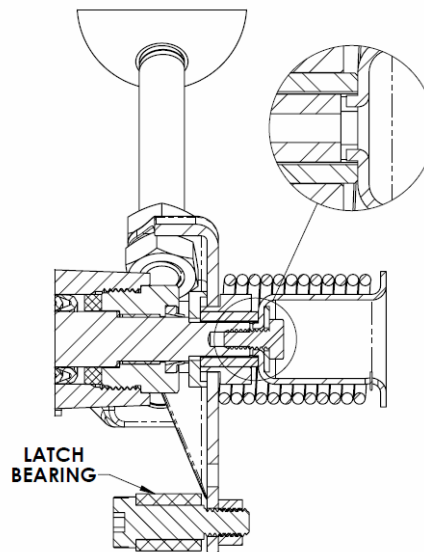

FIGURE 1: INSTALLATION OF SPRING RETAINER
19. With Clapper closed, Install Handle Assembly [21] onto Stem [20A] with Latch Bearing facing down (Figure 1).
22. Install Spring Retainer [12] into Thermal Link [16] as shown (Figure 1) with Handle Spring [13] arm oriented as shown (Figure 2).